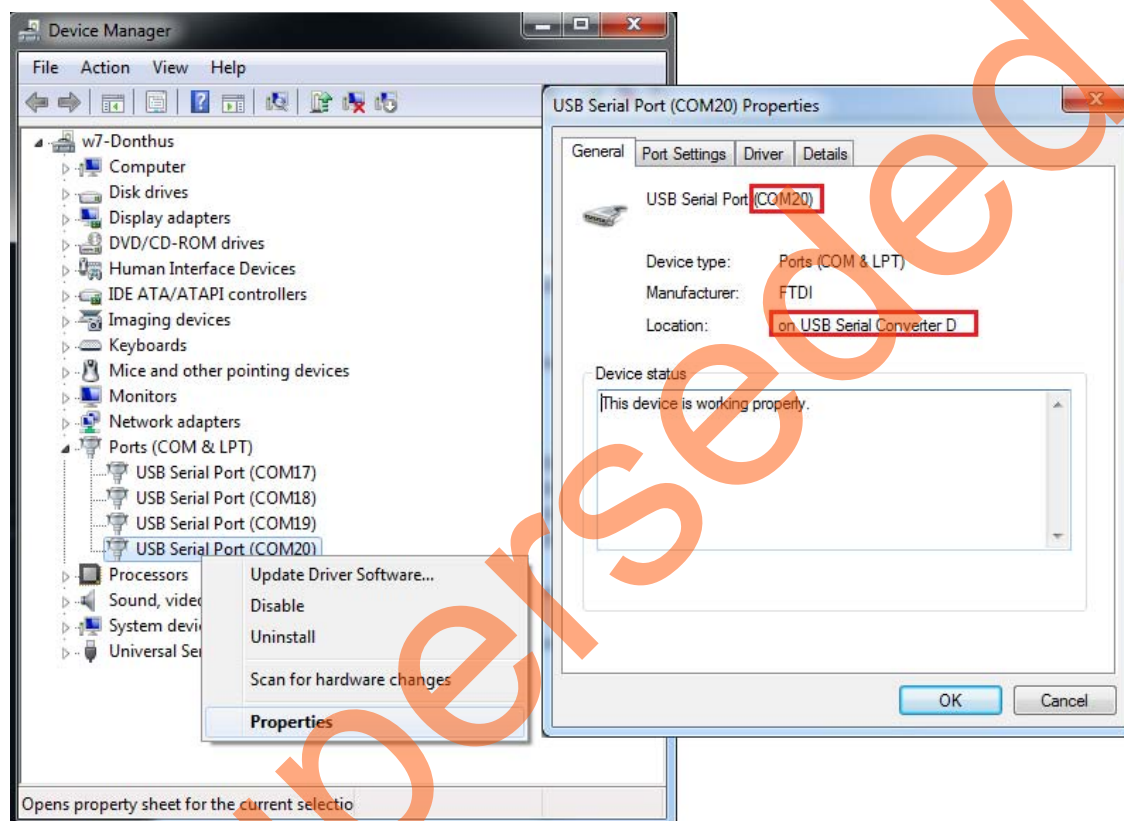

Figure 6 • USB to UART Bridge Drivers
2. Connect the J18 connector on the SmartFusion2 Security Evaluation Kit to the host PC using the USB mini-B cable. Ensure that the USB to UART bridge drivers are automatically detected by verifying the Device Manager, as shown in Figure 6.
Note: Copy the COM port number for serial port configuration. Ensure that the COM port location is specified as **on USB Serial Converter D**, as shown in Figure 6.